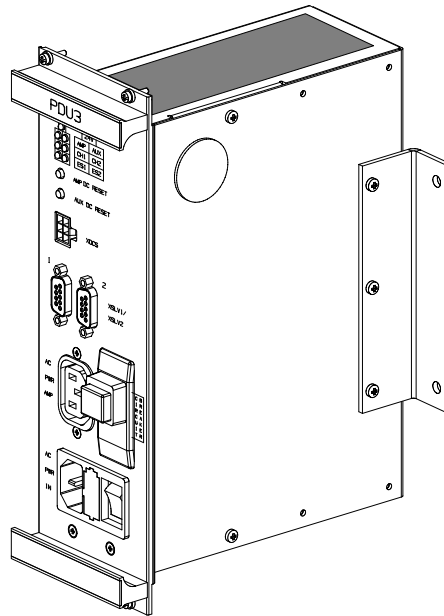
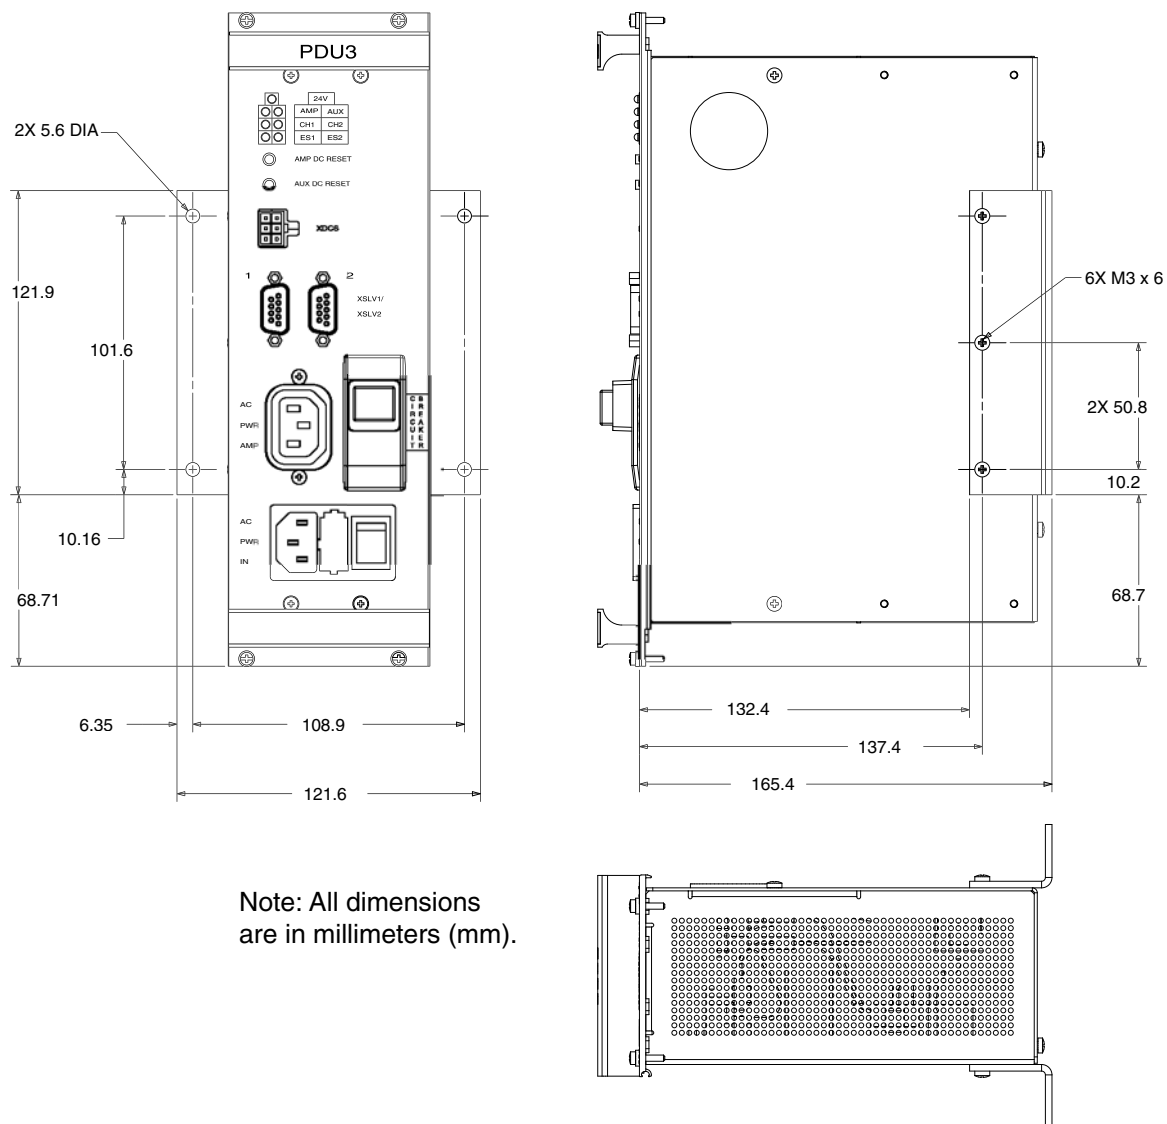

Figure 8-5. PDU3 with Mounting Brackets Installed
Figure 8-7. Mounting Bracket Dimensions
1. Mount the PDU3 in an appropriate location. Interface cables from the first MB-10 to the PDU3 are 4.5 meters, so the PDU3 must be within that distance. Mounting brackets are supplied with the PDU3 (see Figure 8-5 on page 126). For dimensions of the mounting brackets, see Figure 8-7 on page 128.
The PDU3 can be mounted using the supplied mounting brackets, see the following figure. For dimensions of the mounting brackets, see Figure 8-7 on page 128.